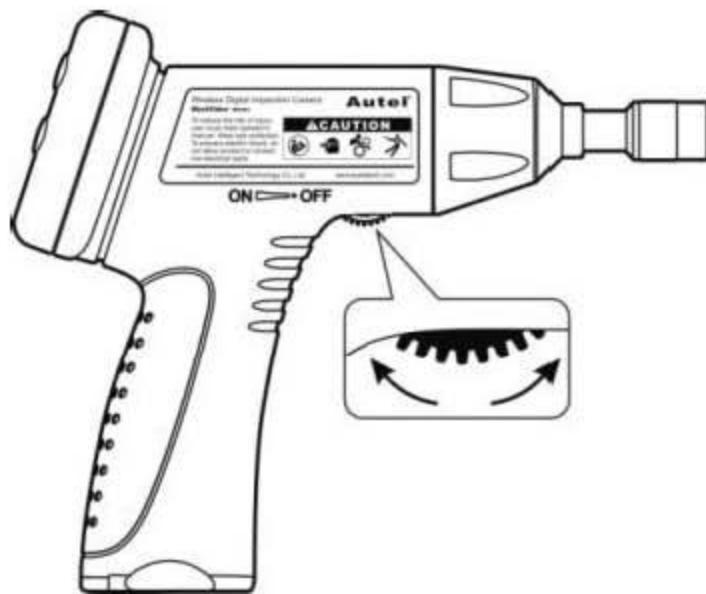

Fig. 10
- (1) To turn the tool on, hold the handheld display unit with LCD screen facing you.
- (2) Press **Power** button to turn on the screen. The power indicator light will illuminate green. The real-time image will appear on the LCD screen.
- (3) Roll the on/off switch to start the camera. This switch also serves as a dimmer for LEDs which provide superb quality lighting (*See Fig. 10*).